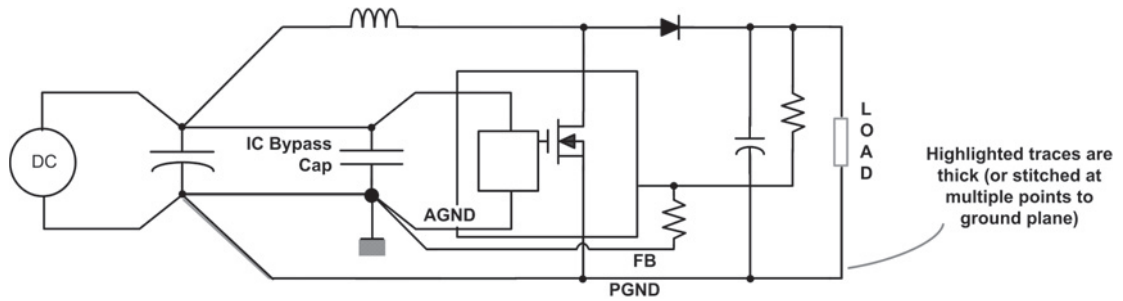
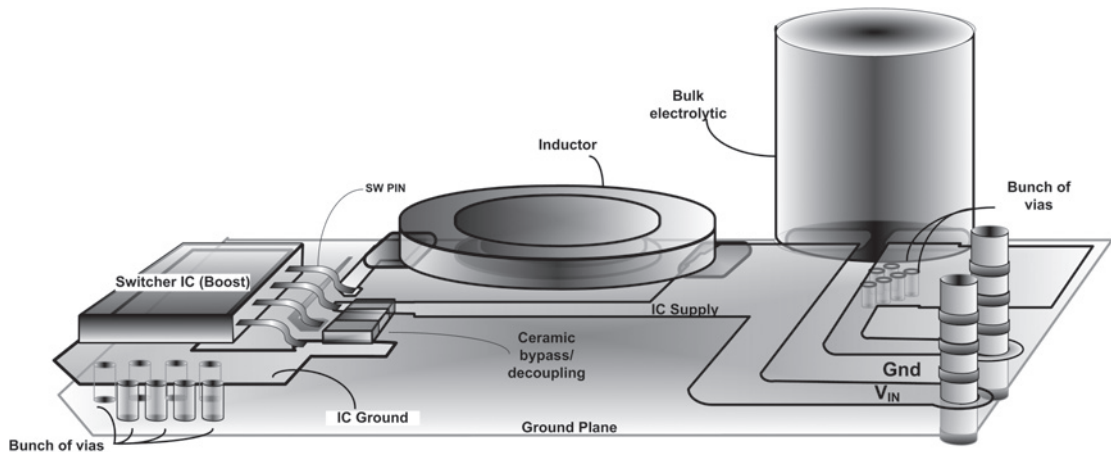

Figure 2-13 Trying to Indicate on a Schematic How a Boost Is to Be Routed
Figure 2-14 The Actual Implementation of the Input Routing Scheme of a Boost Converter
bypassing doesn't seem necessary. But wait! If we think of the control sections, we realize they certainly still need their quota of current spikes! Typically, since the control sections derive their power from the input rail, we end up putting in a small ceramic capacitor anyway, between the input rail and ground (though it could be as small as 10–22nF for a typical Boost switcher IC). Note that this capacitor *must always be positioned very close to the control sections (IC)*, not, for example, at the point where the input enters the board. Its real purpose is to bypass the control stage, not the power stage. This is an important consideration when we start creating a PCB for any Boost converter. Take a look at Figure 2-13 (the schematic) and Figure 2-14 (its PCB implementation) to see what I mean.
Incidentally, you will also note that in Figure 2-13, we are finally trying to get our typical lying (cheating) schematic to tell the full story! That seems to be the only way out so far, till someone has a better idea (and hopefully reinvents the very concept of a schematic!).